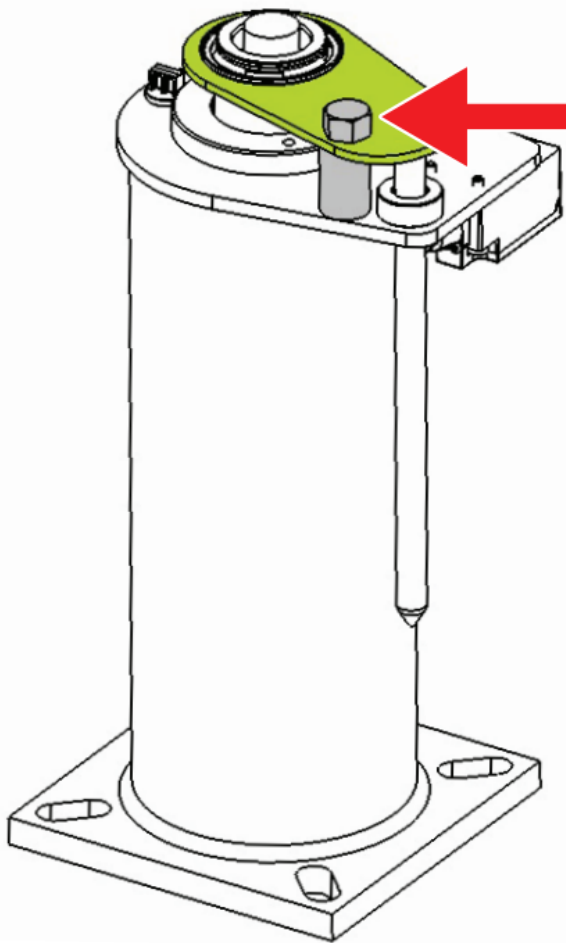

Figure 3
- To release the plunger, undo the transportation bolt. (GREY in figure 3)
- Discard the transportation bolt and spacer (GREY in figure 3)
- After periods of being held in the compressed state during transportation and storage, the plunger may require assistance to initially extend. This should be done using rubber dead blow mallet to tap the underside of the buffer top plate (GREEN in figure 3) at 90 degree intervals until the plunger extends.